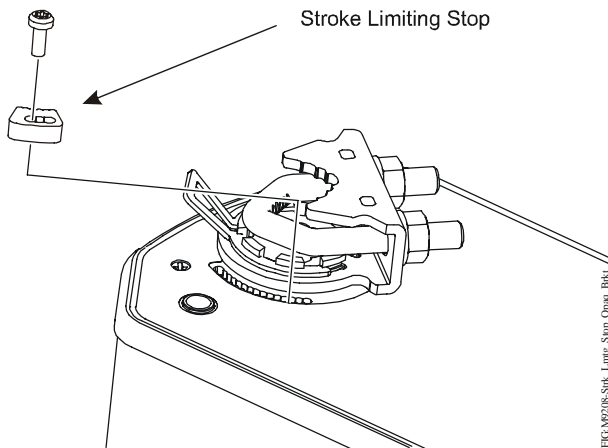

Figure 8: Limiting Rotation Range
3. The product label marks hole positions for the M3-0.5 x 10 mm self-tapping screw provided with the adjustable stop kit. Drive the screw through the slot in the adjustable stop and into the actuator face over a marked hole position. (See Figure 8.)